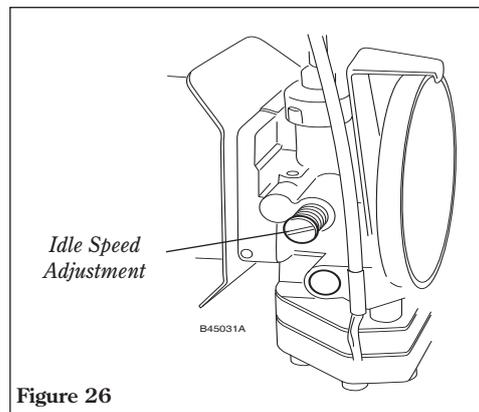

Figure 26
3. If a tachometer is not available and the cutting attachment rotates while the engine is idling, turn the idle adjustment screw counterclockwise until the cutting attachment stops rotating. See Figure 26.